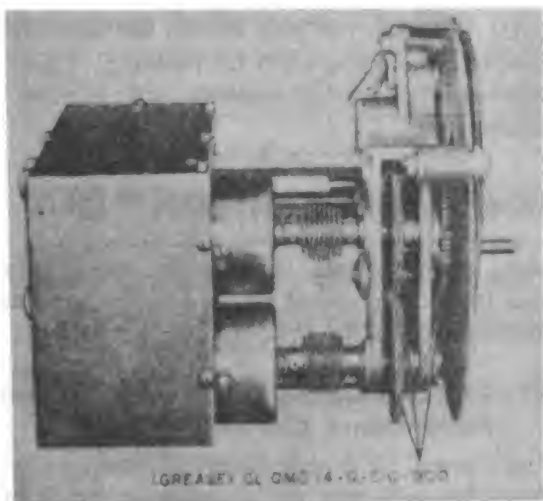

Figure 8. Typical lubrication points.
- (6) Lubricate the dial gearing, film mechanism, and interpolation oscillator gearing in accordance with instructions in paragraph 31 and figure 8.
a. The only points to be lubricated are the gear faces (fig. 8), and then only when the film mechanism has been disassembled for repairs. Use Grease, Aircraft and Instruments (GL), for all gears that require lubrication.
b. Gasoline will not be used as a cleaning fluid for any purpose. When the frequency meter is overhauled or repairs are made, parts should be cleaned with solvent (SD).